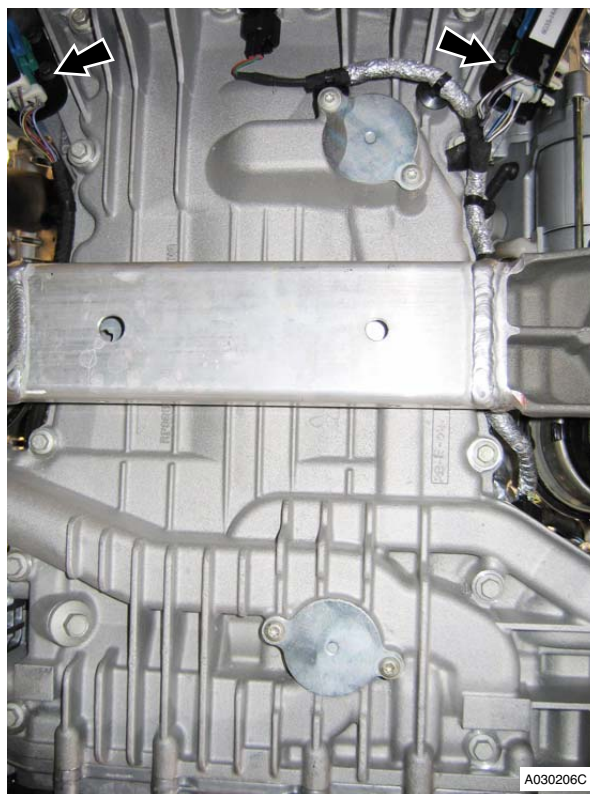

Figure 9
17. Remove bolts (x4) securing LH and RH HEGO sensor multiplug brackets to sump (see Figure 9).